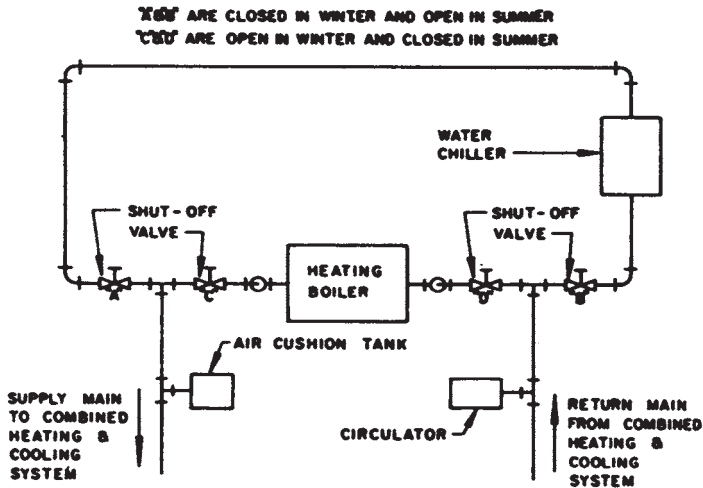

Figure 6: Recommended Piping for Combination Heating & Cooling (Refrigeration) System
5. If this boiler is used in connection with refrigeration systems, the boiler must be installed so that the chilled medium is piped in parallel with the heating boiler using appropriate valves to prevent the chilled medium from entering the boiler, see Figure 6. Also consult I=B=R Installation and Piping Guides.